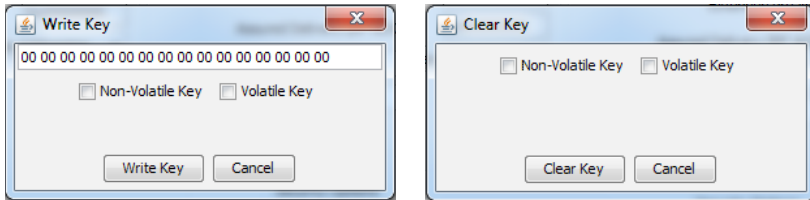

Figure 22: The Master Development System Software Write Key and Clear Key Windows
- Clicking the Write Key button opens a window where the 128-bit AES key can be entered (Figure 22).
- Clicking the Clear Key button opens a window where the key can be cleared (Figure 22).